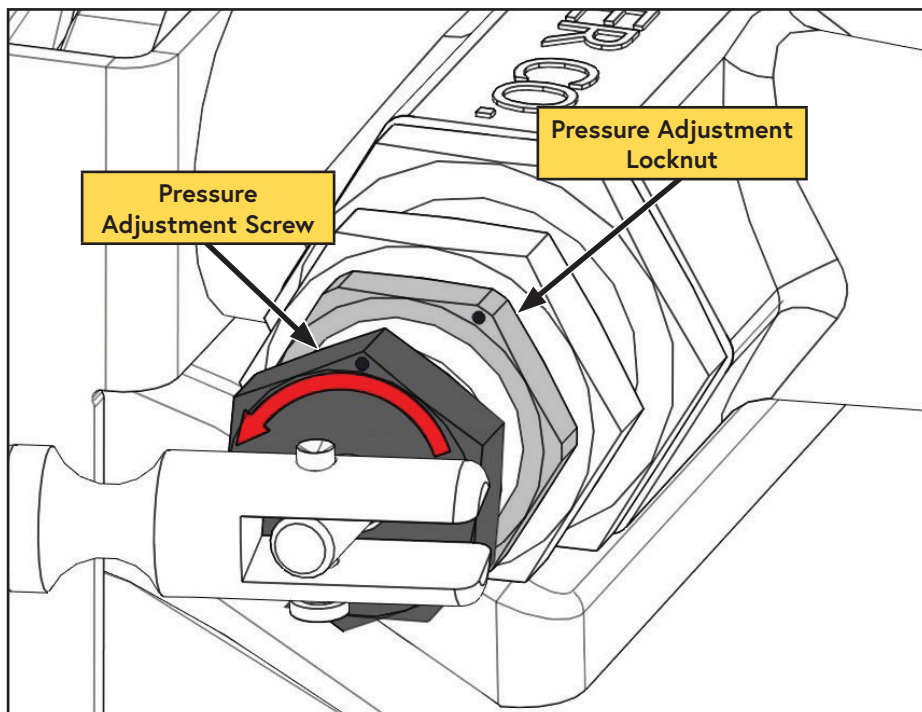

Figure 51 — Adjusting the Unloader Valve
- ☐ While securely holding the "Pressure Adjustment Screw", loosen the "Pressure Adjustment Locknut" (Figure 51).